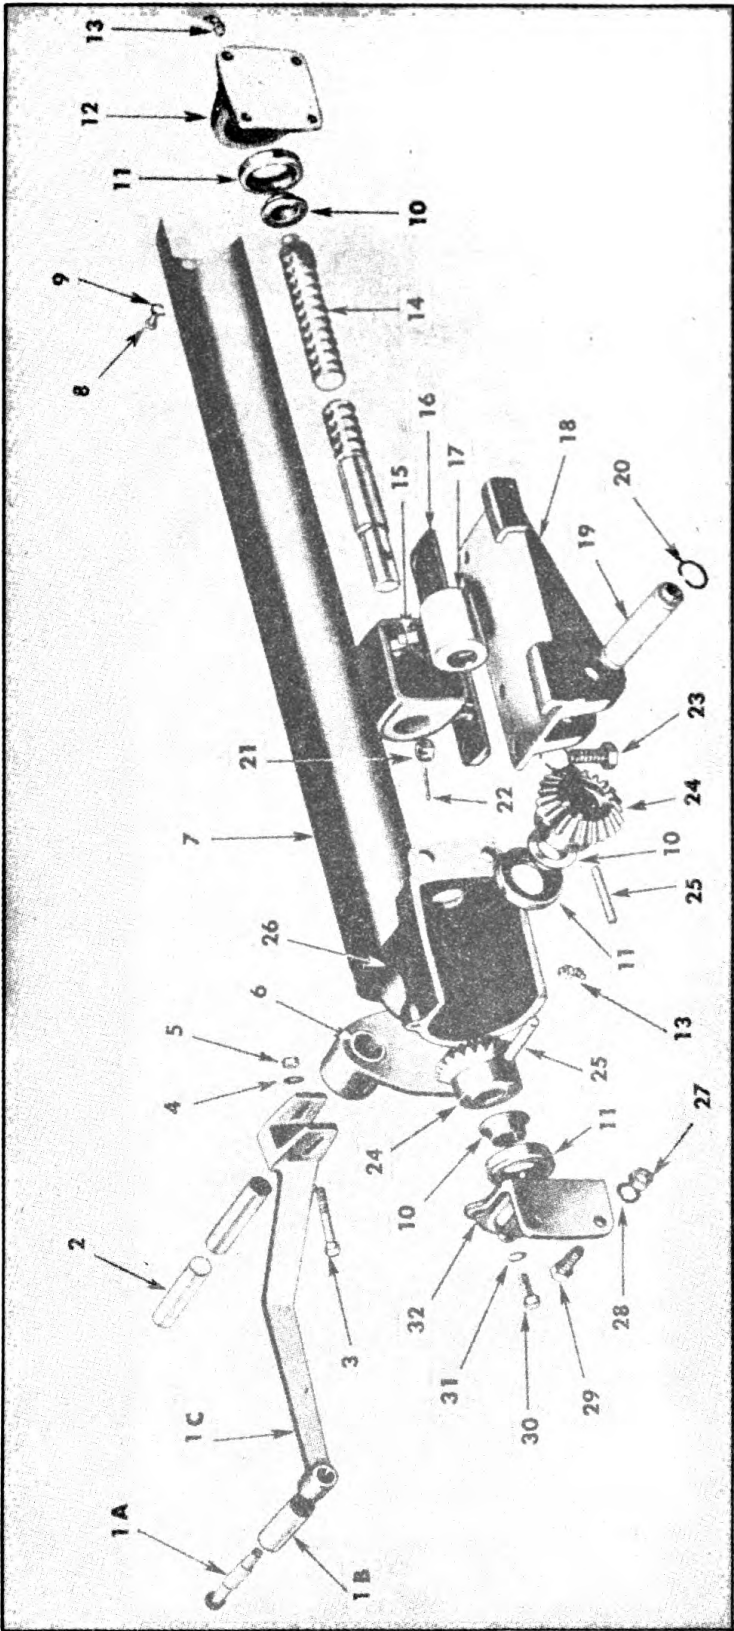

FIGURE 70. SUPPORT OPERATING MECHANISM
b. Replacement.—(1) Replacement procedure is in reverse of removal procedure.
(2) NOTE: Before mounting assembly to I-beam fill gear housing with a light grade of chassis lubricant.
c. Disassembly (Figure 70).—(1) Turn riser screw nut housing (16) off riser screw (14).
(2) Remove the three cap screws (30) holding front bearing cap (32) to gear housing (26).
(3) Tap bearing cup off riser screw and pull riser screw out of gear housing.
(4) Pull gear housing off operating shaft (2).
(5) Each gear (24) is held to riser screw (14) and operating shaft (2) by a 3/8" drive pin (25).
(6) To remove gears simply drive out the drive pins using a long tapered punch and a hammer.
d. Reassembly (Figure 70).—(1) Insert the operating shaft (2) into the small hole in the gear housing (26).
(2) Place bearing (11) over end of operating shaft next to gear housing. (Have concave side of bearing out towards shaft end.)
(3) Place sleeve (10) next to bearing with the larger surface toward shaft end.
(4) Install gear (24) over shaft end, using drive pin (25).
(5) Install gear (24) over end of riser screw (17) using drive pin (25).
(6) Place gear end of riser screw in gear housing.
(7) Place bearing sleeve (10) over end of riser screw with the larger surface next to gear.
(8) Place bearing (11) with the concave surface over bearing sleeve.
(9) Place bearing cap (32) over bearing.
(10) Fasten bearing cap to gear housing (26) using the three 3/8" cap screws and lockwashers (30) and (31).
(11) Bolt rear bearing cap (12) to I-beam using the four 1/2" bolts.